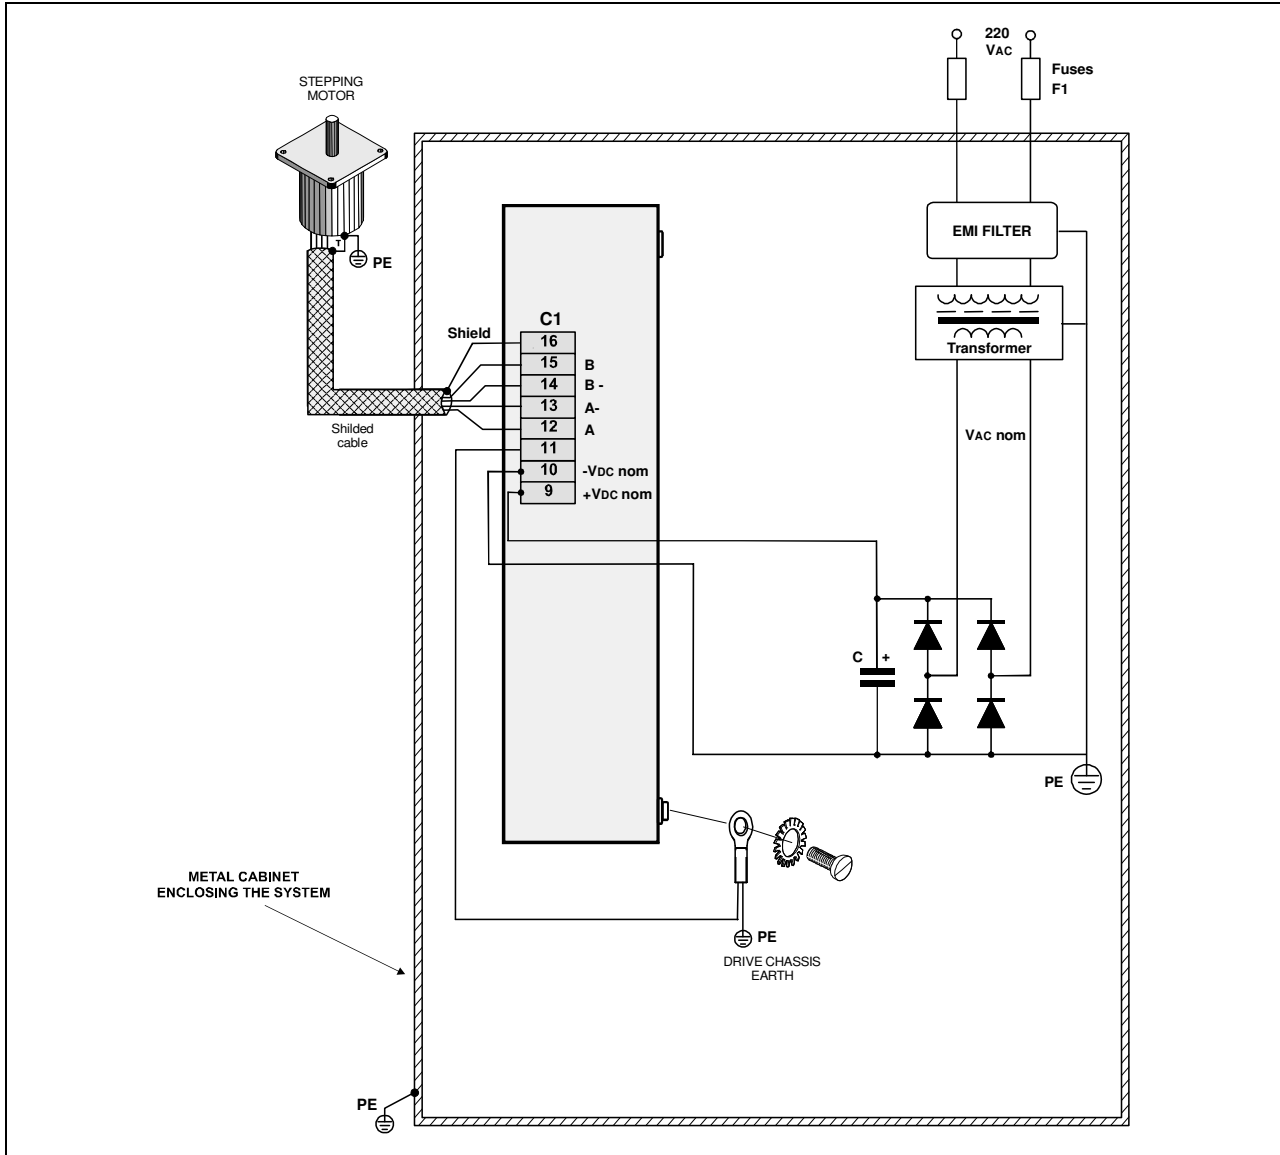

Figure 8 - Drive external connections scheme.
It is possible to use a switching power supply instead of a traditional power supply indicated in Fig. 8, provided that you have a capacitor of at least 1000  $\mu F$  on the output line of power supply. This capacitor should be located at a distance not greater than 1 - 2 meter from  $V_{dc}$  input of the drive. The purposes of the capacitor are:
- 7.4. Fuses F1 (vedi Fig. 8) are time lag with nominal current according transformer power.
- Connect earth line to motor chassis. To reduce the radio-frequency emissions, the mechanical connection of motor to machine chassis (by means of mounting flanges and screws), is typically simple and effective solution. In this case, both screws and chassis must be of conductor material and the chassis must be connected to earth. See Figure 8.